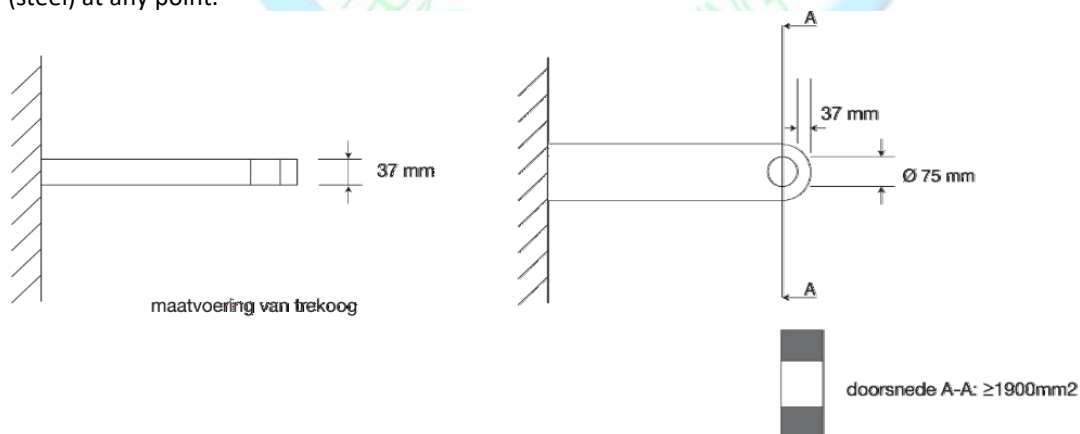

Figure 3 Dimensions drawbar trucks
1. Drawbars must meet the dimensions in Figure 3. Cross section to be minimum of 1.900 mm² total material (steel) at any point.